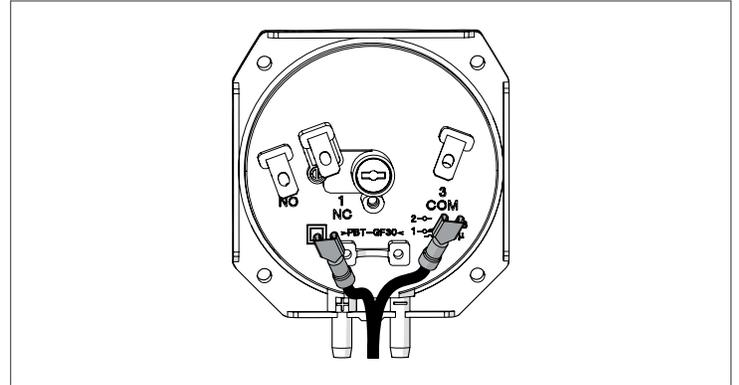
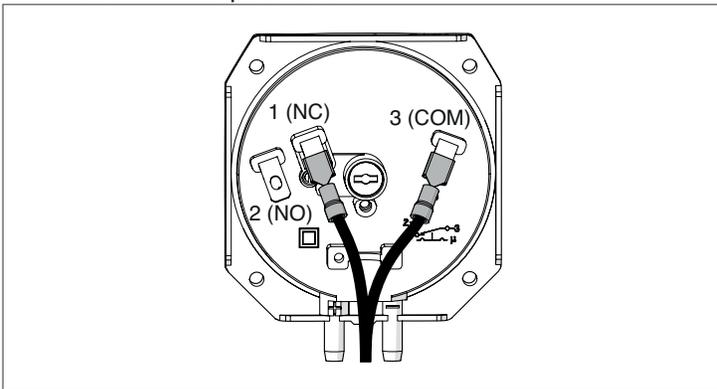

Fig. 72 *Disconnect wires*
Fig. 75 *Wired pressure switch*
- Test the pressure switch on the other side of the boiler (module 4 or 8); repeat the process from Fig. 72 through Fig. 75.
- Follow the steps from Fig. 72 through Fig. 75.